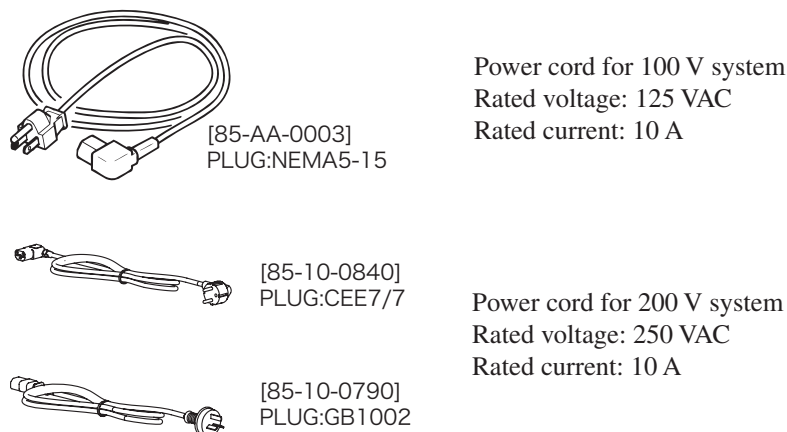

Fig. 2-3 AC power cord
- The AC power cord for 100 V system shown in Fig. 2-3 has a rated voltage of 125 VAC. If this AC power cord is used at the line voltage of a 200 V system, replace the AC power cord with that satisfying that line voltage. An appropriate AC power cord must be selected by qualified personnel. If it is difficult to obtain the AC power cord, consult your Kikusui distributor/agent.